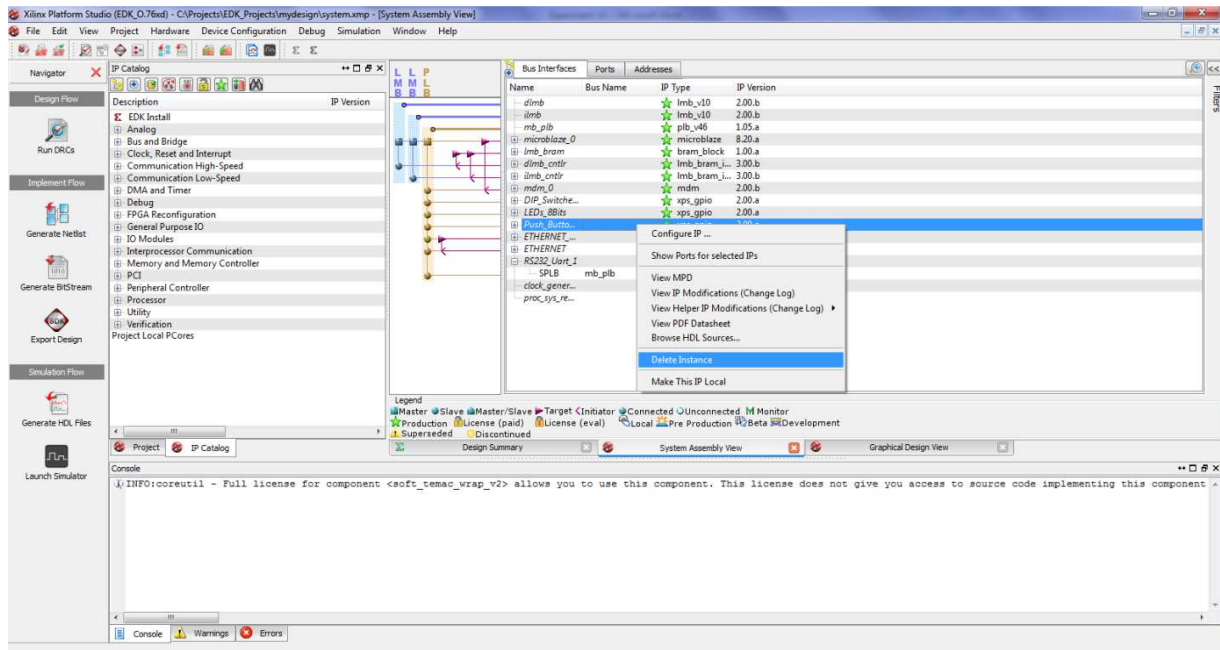

Figure 15. Deleting Peripheral – 1
- Right click the peripheral “Push_Buttons_4Bits” a menu will pop up as shown in Figure 15. Select “Delete Instance”.